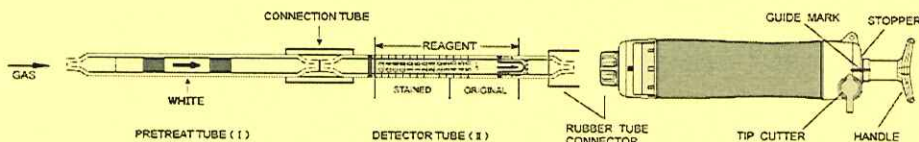

Fig.1
- ① Break both ends of the pretreat tube (I) and detector tube (II), and connect each end of the pretreat tube and detector tube with connecting tube as shown in Fig.1.
- ② Insert the detector tube into the aspirating pump securely as shown in Fig.1. (Arrow mark shall point to the pump.)
- ③ Align the guide marks on the shaft and stopper of the aspirating pump.
- ④ Pull the pump handle at a full stroke until it locks and wait for 2 minutes or until the completion of sampling is confirmed with the flow indicator of the pump. (See descriptions about the flow indicator in the instruction manual of the pump.)
- ⑤ Push back the handle without removing the detector tube from the rubber tube connector so that air in the pump will be discharged perfectly. Then repeat the step ③ ~ ④ once more.
- ⑥ On completion of sampling, read the scale at the maximum point of the stained layer.